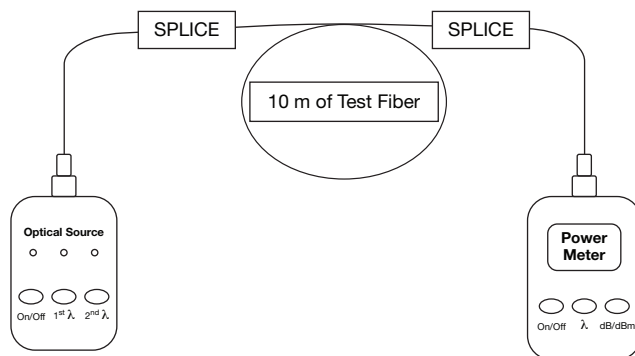

Figure 1
7. Connect a laser (SM) or LED (MM) source to one end of the fiber and a power meter to the other end of the fiber. Refer to Figure 1.